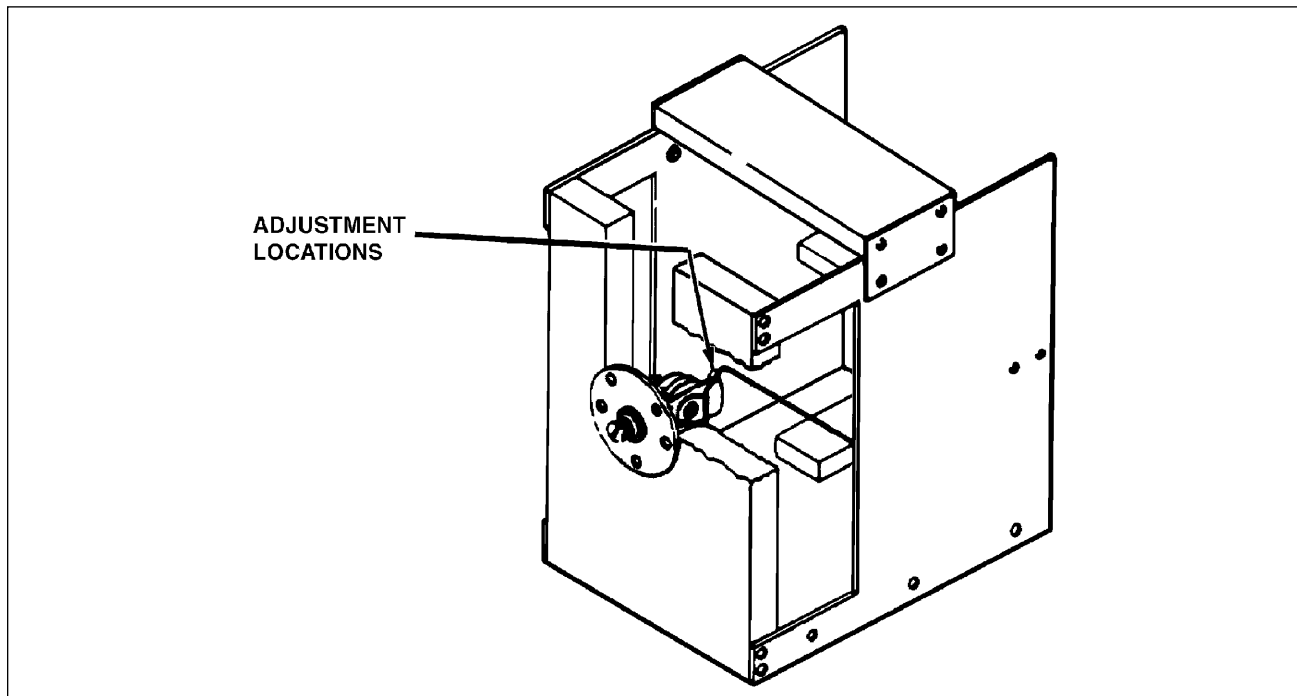

Figure 9-7a. Fuel Quantity Transmitter (P/N 548-671; Rochester Gauges)
2. Ascertain that with the float just touching the top of a 0.27 in. spacer block, the resistance of the sending unit is  $3 \pm 0.5$  ohm. Should the resistance of the sending unit not fall into this range, adjust the arm of the float assembly by gently bending it as indicated in Figure 9-7a. The entire float must be horizontal to the base of the fixture.